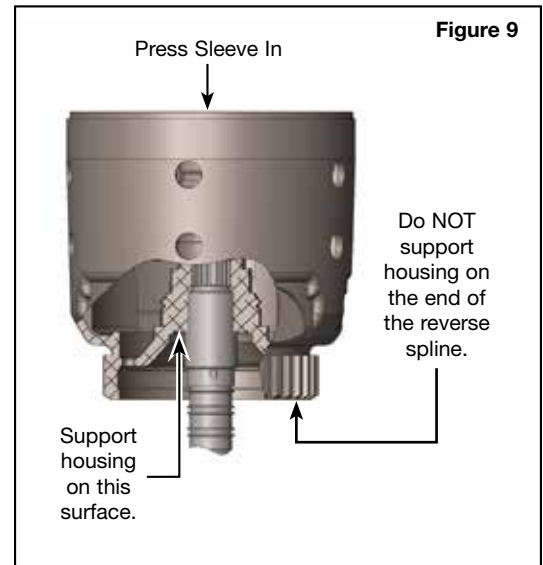

Figure 9
- Set the input drum into a suitable press. Support the aluminum housing as indicated (**Figure 9**) using an appropriate sized tube or a spare (not to be reused) 4L60 stator shaft and selective spacer (with bearing left out).